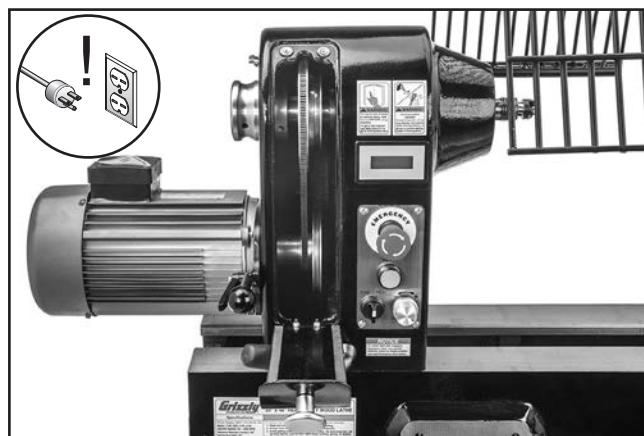

Figure 39. Belt access cover removed.
2. Open belt access cover, as shown in **Figure 39**.